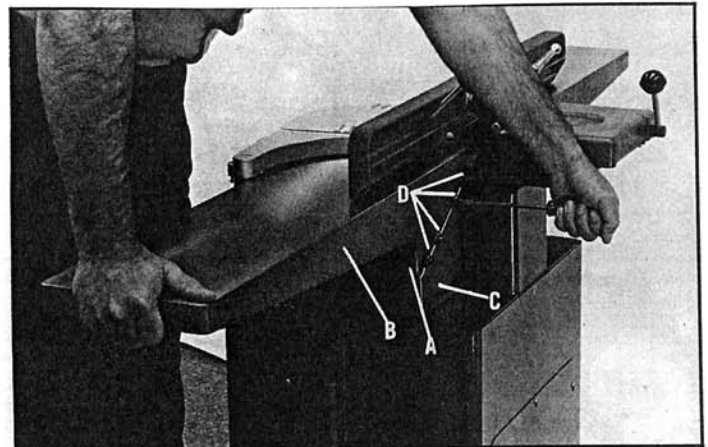

Fig. 14
"Gibs" are provided to take up all play between the mating dovetailed ways of the base and the front and rear tables of your jointer. The "gib" for the front table is located between the dovetailed ways (A) Fig. 14, of the front table (B) and base (C). Proper gib adjustment is necessary for the correct functioning of the jointer. The "gibs" on your machine were adjusted at the factory and should require no further adjustment, however, if it ever becomes necessary to adjust the "gibs" proceed as follows:
1. Loosen all four of the gib adjusting screws (D) Fig. 14. NOTE: The four locknuts located on the gib adjusting screws must first be loosened.
2. Proceed to retighten the four gib adjusting screws (D) starting with the lowest screw first and as you proceed toward the top, raise up gently on the outboard edge of the table being adjusted, as shown in Fig. 14. This will offset any tendency of the table casting to "droop" or "sag" and permit the gib to be brought up to a good secure fit.